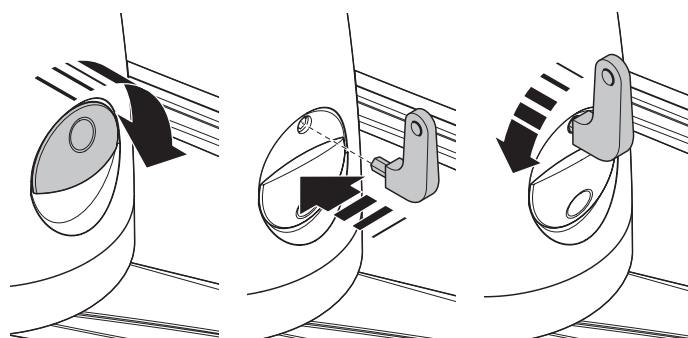

Fig. 12
01. Release the gear motor as shown in Fig. 12;